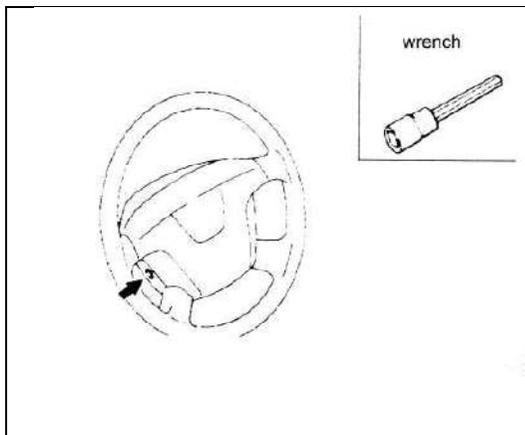

Fig 19-27
(2)Steering wheel and air bag module assembly removal(See fig 19-27).